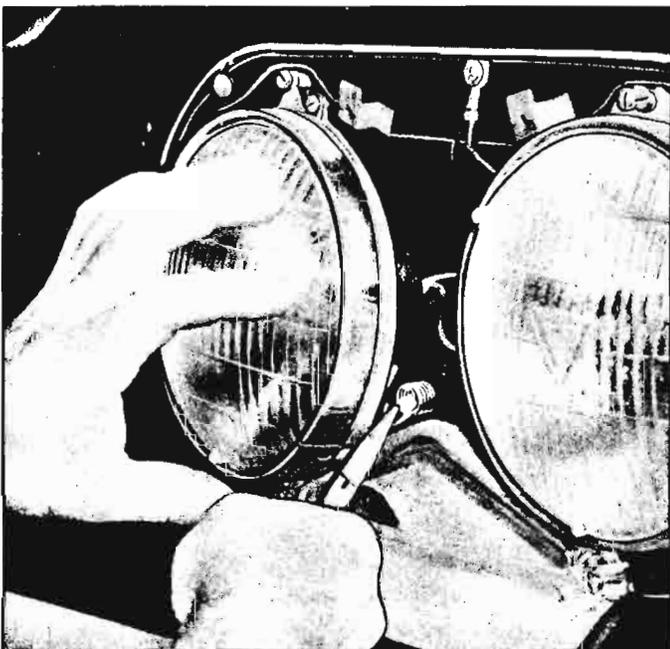
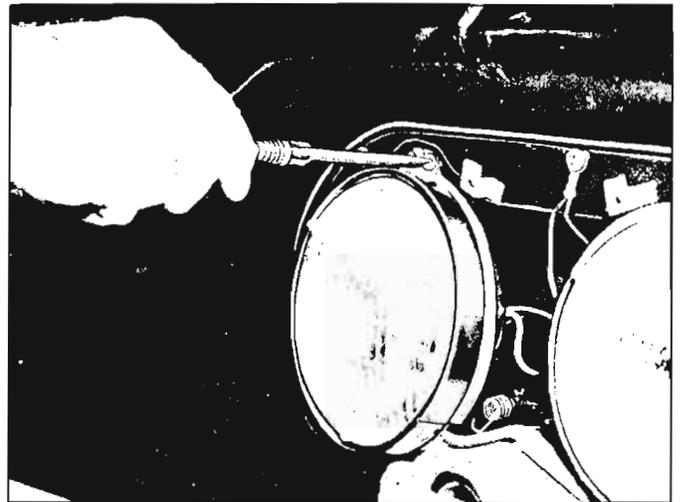

Fig. 8-88—Removing Retaining Ring Spring
Fig. 8-89—Retaining Ring Attaching Screws
2. With long nosed pliers remove the retaining spring (fig. 8-88) from the retaining ring. Remove the retaining ring attaching screws (fig. 8-89). Do not disturb the adjusting screws.